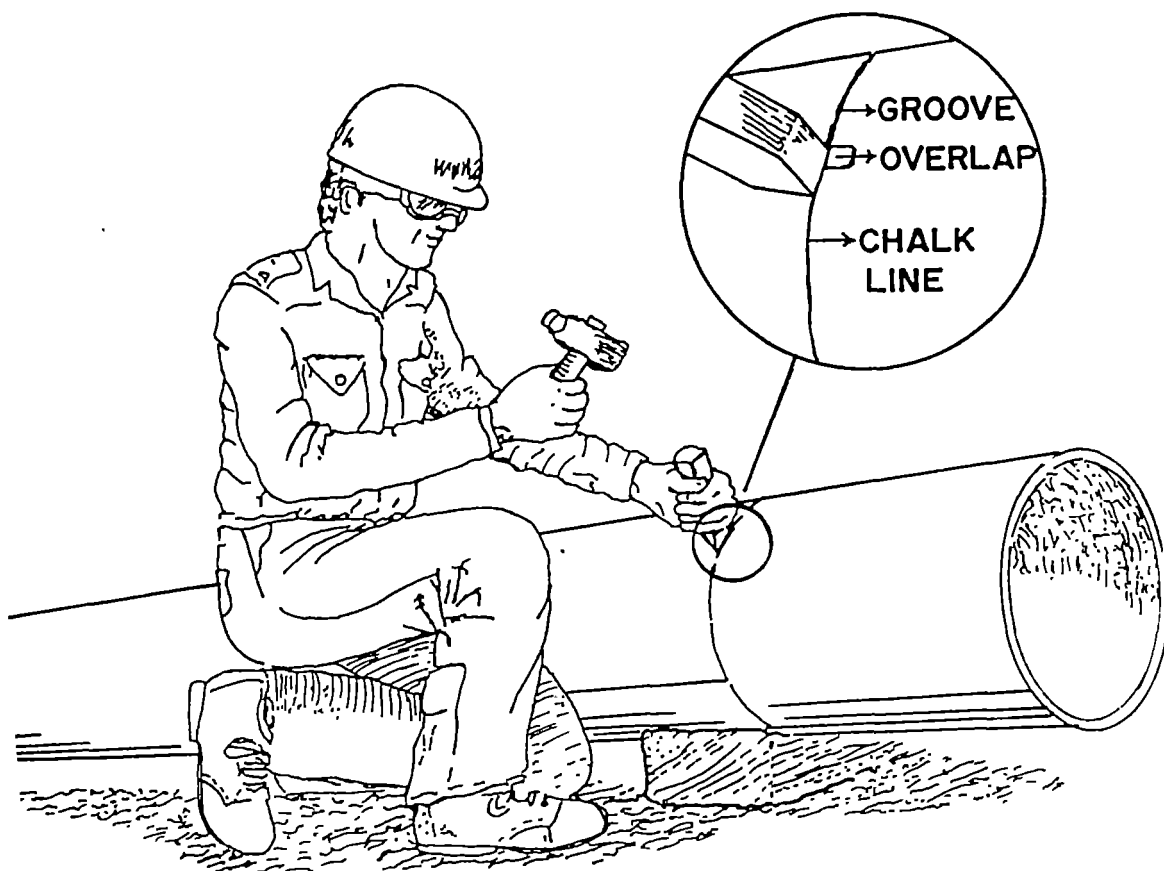

Fig. 1. Chisel and hammer method
3. CHISEL AND HAMMER METHOD (see Fig. 1.)